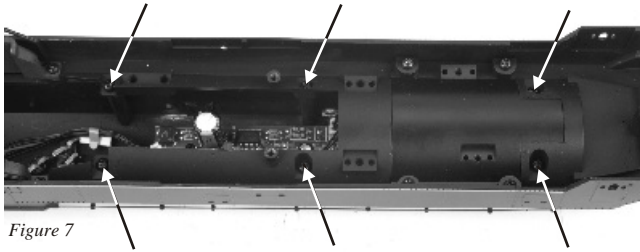

Figure 7
3. Remove the 6 screws that attach the boiler section to the cab and skirt in g section. Be careful not to scratch the cab with the ends of the boiler handrails. (See Fig. 7)